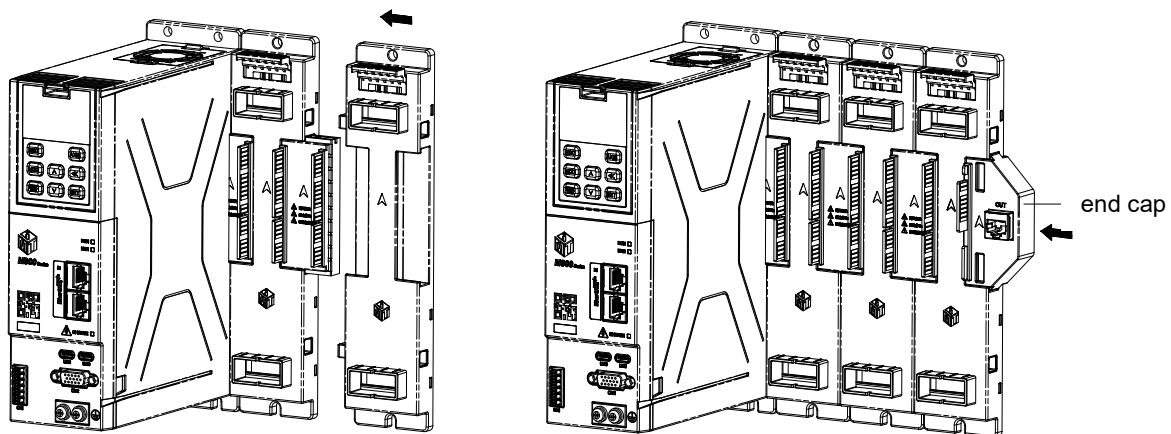

Figure 4-6 Complete the installation of the baseplate, connector, and end cover
3. As shown in Figure 4-6, repeat step 2 above. After installing all the baseplates and connection sockets, insert the end cover into the slot on the right side of the rightmost baseplate and make it tightly adhere to the slot.